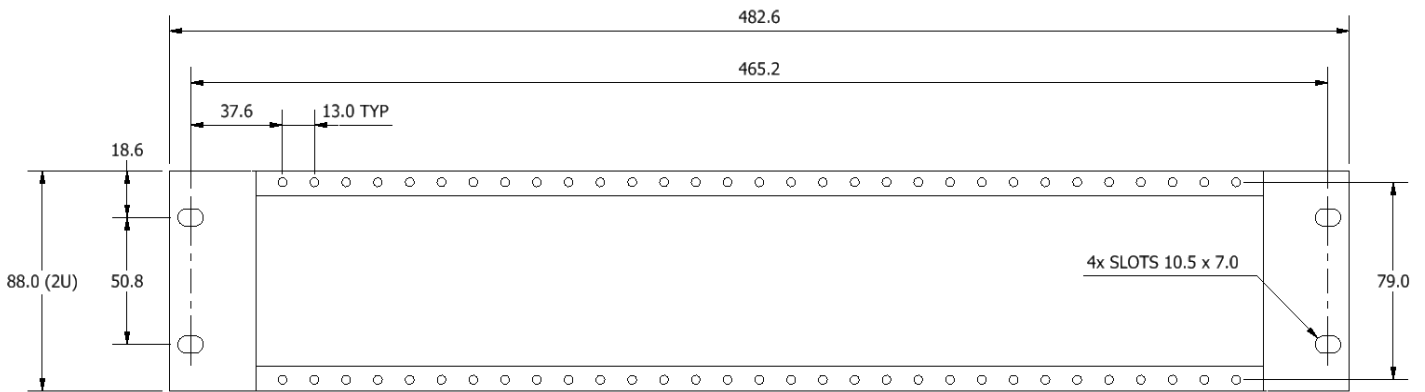

Figure 7: 4M800-2U Sub-rack frame for mounting in a 19-inch rack
Two (2) sub-rack frame types are available as per figures 7 and 8: